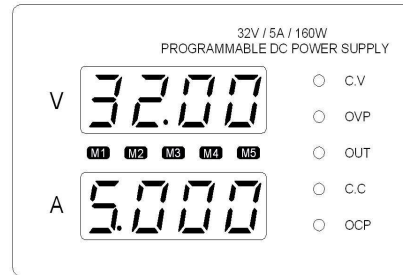
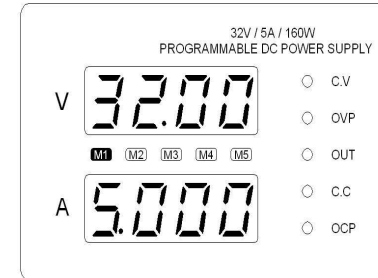
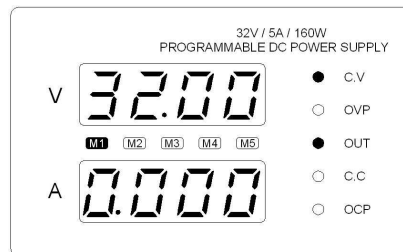

FIG.5 Storage status
FIG.6 After storage status
FIG.7 Memory output
- (1). Storage operation, first set the preset voltage, current, specific settings can be when used with reference to the normal voltage and current settings methods, voltage and current settings End After, After Press the second function enable key (SHIFT) on the panel, M1~ M5LED all lighted, the show voltage and current values are to be stored, see FIG.5 and see FIG.6;
- (2). Press the corresponding memory key output parameters, storage time of M1, M1 pressing keys corresponding to the M1 light-emitting diode light, see FIG.6
- (3). Other in each group stored in the default method and the same M1;
- (4). Out has been stored at the default, press the M1 key to display the stored voltage, current, and then press the shutdown button OUTPUT, can be stored in the output voltage, Current, see FIG.7